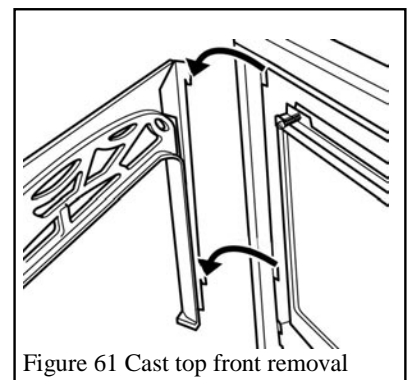

Figure 61 Cast top front removal
- **Cast Iron Fronts:** Lift up and unhook the upper casting. The bottom casting does not need to be removed. See figure 61.
- **Cast Iron Fronts:** Lift up and unhook the upper casting. Lift up and unhook the bottom casting. See figure 61.